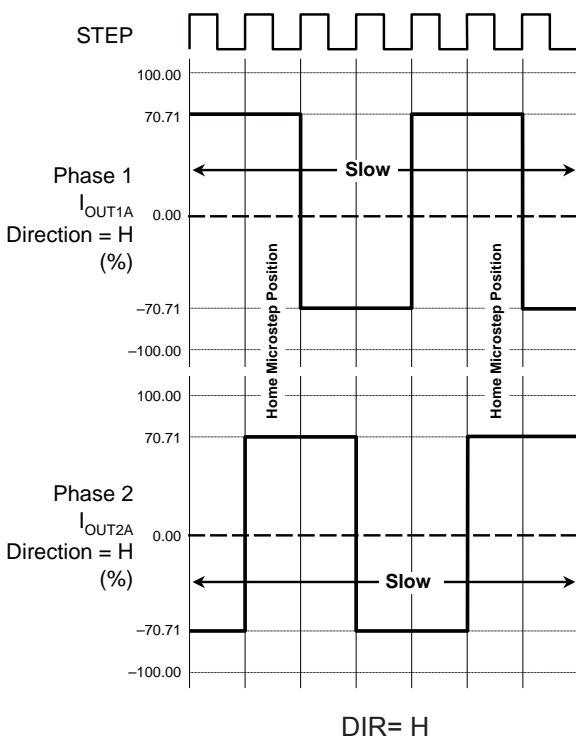

Figure 8. Decay Mode for Full-Step Increments
At power-on or reset, the translator sets the DACs and the phase current polarity to the initial Home state (shown in figures 8 through 12), and the current regulator to Mixed Decay Mode for both phases. When a step command signal occurs on the STEP input, the translator automatically sequences the DACs to the next level and current polarity. (See table 2 for the current-level sequence.) The microstep resolution is set by the combined effect of the MSx inputs, as shown in table 1.
**Mixed Decay Operation.** The bridge operates in Mixed decay mode, at power-on and reset, and during normal running according to the ROSC configuration and the step sequence, as shown in figures 8 through 12. During Mixed decay, when the trip point is reached, the A4988 initially goes into a fast decay mode for 31.25% of the off-time,  $t_{OFF}$ . After that, it switches to Slow decay mode for the remainder of  $t_{OFF}$ . A timing diagram for this feature appears on the next page.
**Reset Input (RESET).** The  $\overline{\text{RESET}}$  input sets the translator to a predefined Home state (shown in figures 8 through 12), and turns off all of the FET outputs. All STEP inputs are ignored until the  $\overline{\text{RESET}}$  input is set to high.
**Mixed Decay Operation.** The bridge operates in Mixed Decay mode, depending on the step sequence, as shown in figures 8 through 12. As the trip point is reached, the A4988 initially goes into a fast decay mode for 31.25% of the off-time,  $t_{\text{OFF}}$ . After that, it switches to Slow Decay mode for the remainder of  $t_{\text{OFF}}$ . A timing diagram for this feature appears in figure 7.